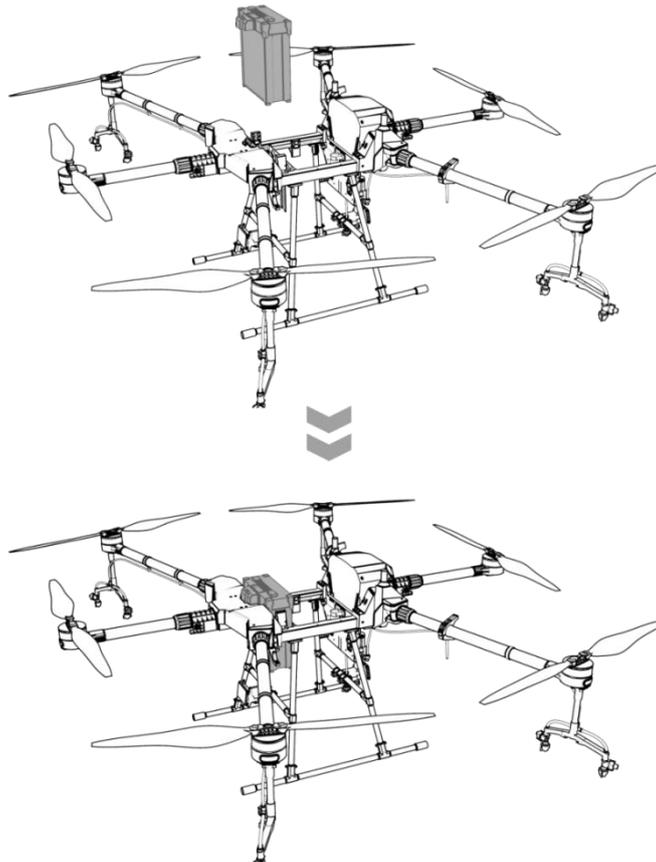

Figure 1-4-6
Step 2: Connect the battery output port to the body, and the battery is locked in when you hear a “click”. As shown in Figure 1-4-6.